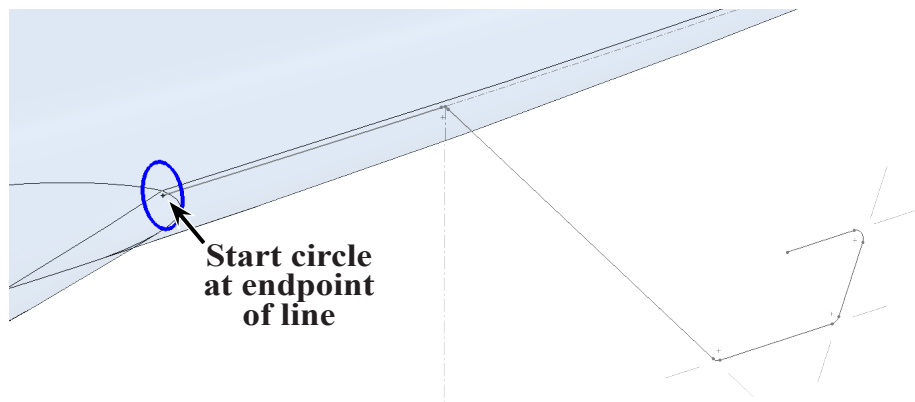

Fig. 17
Step 1. Rotate view to view **slightly**, **Fig. 17**. To rotate, hold down middle mouse button (wheel) and drag.
Step 5. Draw a **circle top endpoint of line**, **Fig. 17**.